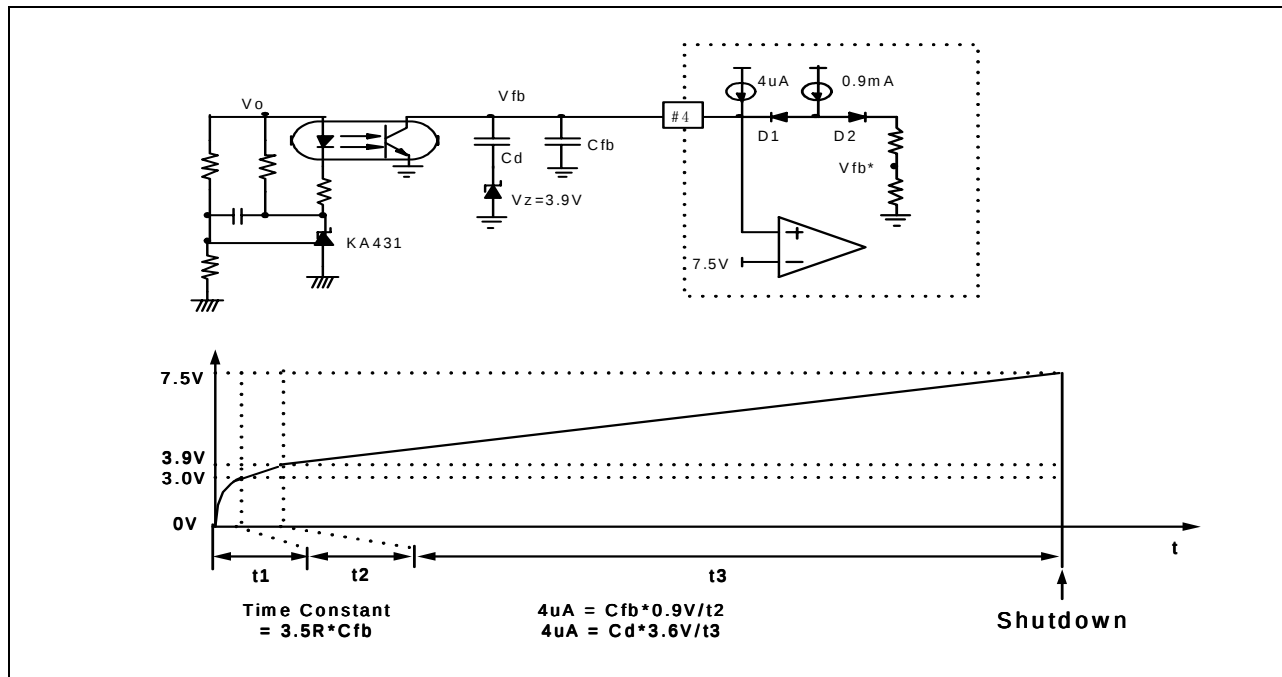

Figure 3. SPS Delayed Shutdown
SPS shutdown. If a part of delay current go through the added resistor, the time to shutdown can be lengthened. In our test the delay shutdown time with C_{fb} (473) and resistor (3.9M) is about two times longer than with only C_{fb} (473). When V_{fb} is 7.5V, the current flowing through this 3.9MΩ resistor is approximately 1.9μA. To obtain the same results, if a zener diode (about 3.9 ~ 4.7V) in series connection with a capacitor is parallel-connected to C_{fb} , as depicted in Fig 3., the desired shutdown delay time could be obtained according to the size of the capacitor.